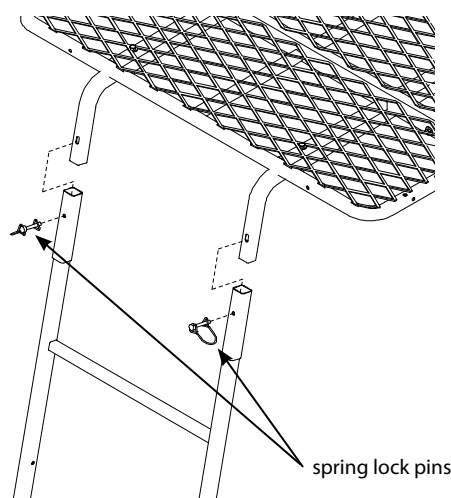

Figure 8
15. With all sections assembled together on ground, secure all sections together using (6) provided spring lock pins. Handle of spring lock pin must be put to outside of ladder side rails. **SEE FIGURE 8.**